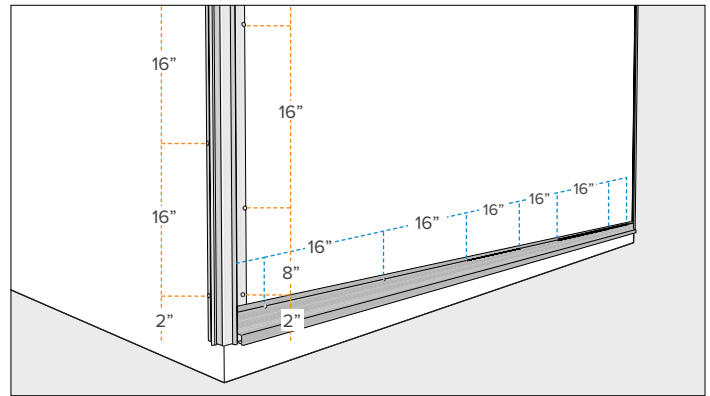

Figure 11.3
- On any corner profile or profile with two fastening flanges, alternate the nailing patterns from one flange to the next (Figure 11.3). Avoid aligning nails to prevent pillowing or buckling of the profile, except at ends. At any end of a trim having two nailing flanges it is recommend to have a nail in each flange no further than 2".